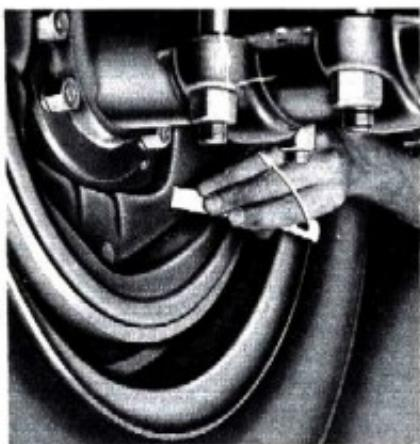

Fig. 51—Adjusting $1\frac{1}{2}$ and 2 Ton Rear Brakes
2. Turn rear adjusting screw (fig. 51) until a moderate dragging contact is felt on the brake drum and then back off 3 notches.